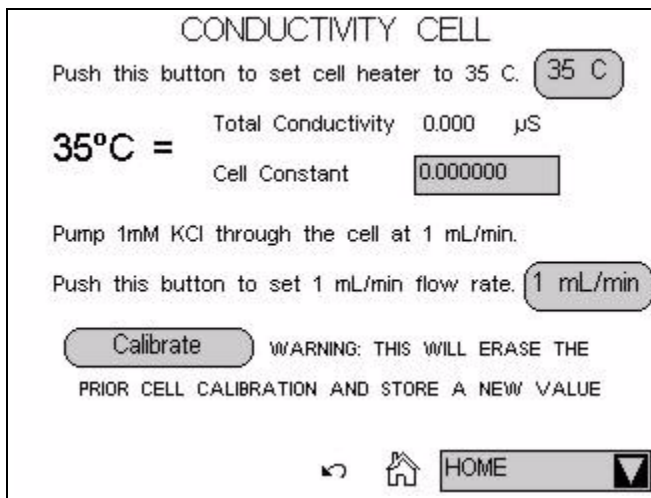

Figure 5-4. Conductivity Cell Page
8. If you are using the touch screens to perform the calibration, open the **CONDUCTIVITY CELL** page (see Figure 5-4).